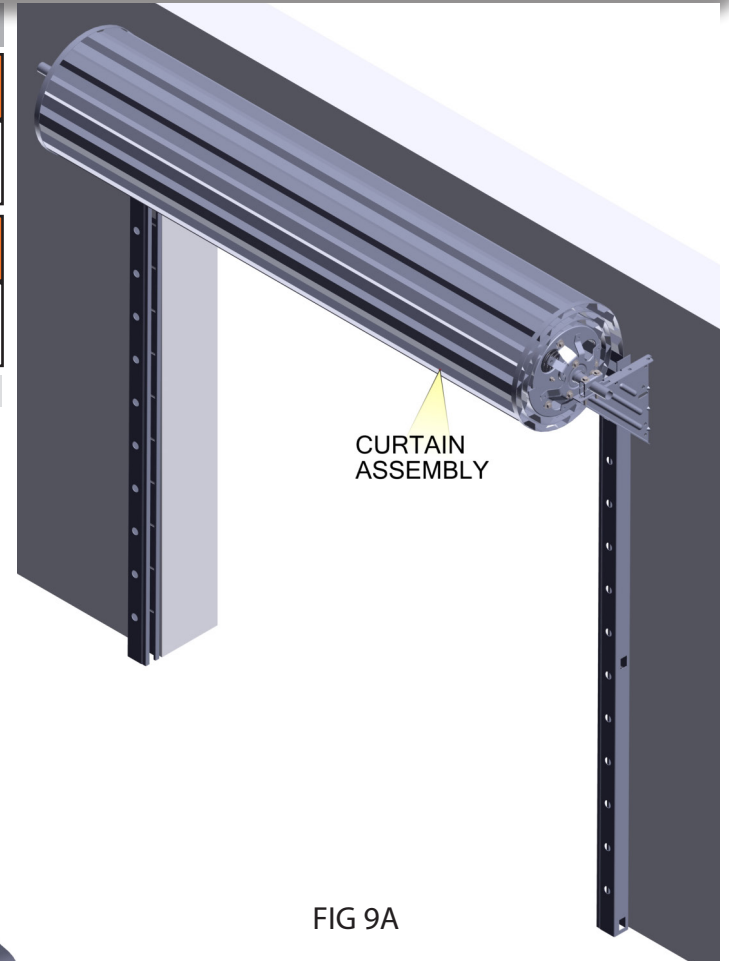

FIG 9A
- Lift the curtain assembly up to the support brackets. See Figure 9A.